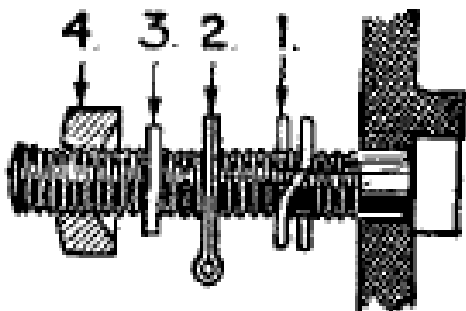

Fig. D.5. The correct sequence of assembly of the connecting components on the terminal screw.
In the case of the terminal screw which holds the Bakelite cover in position, similar considerations apply, the assembly being: spring washer (1), wiring tag (2), lead washer (3), and recessed nut (4). (See Fig. D.5.)